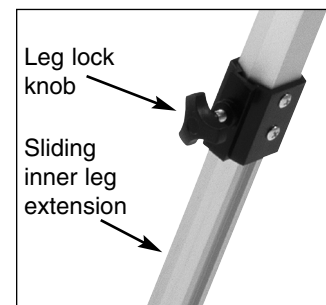

Fig. 3: Adjust the height of the tripod.
5. Extend the sliding center portion of the adjustable height tripod leg to the desired length for all 3 legs. Lock the tripod legs by tightening the leg lock thumbscrew to a firm feel. See **Fig. 3**.